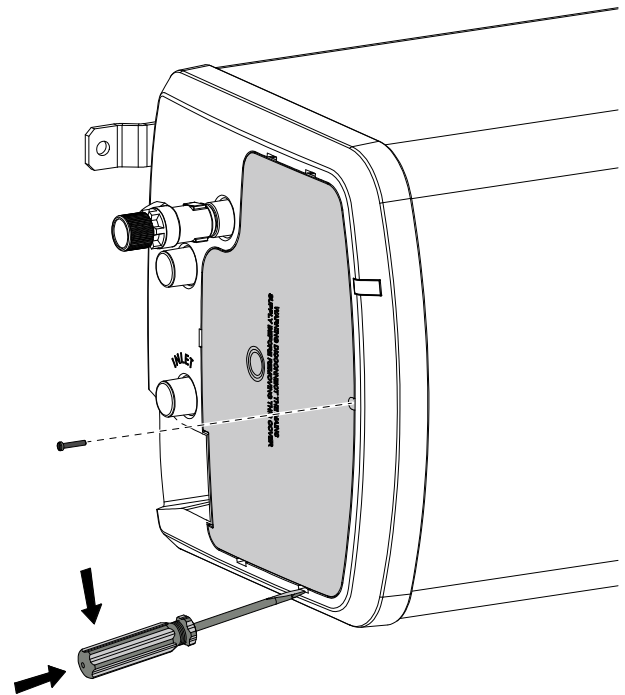

Figure 10: Cover Removal
- ▶ The temperature control is underneath the cover, please see figure 10, page 18 on how to remove.
- ▶ When empty, open the cover to the immersion heater housing. Remove the securing screw then release the cover by carefully inserting a flat bladed screwdriver into the slots around the cover and gently levering outwards until the catches release (see figure 10 page, 18).